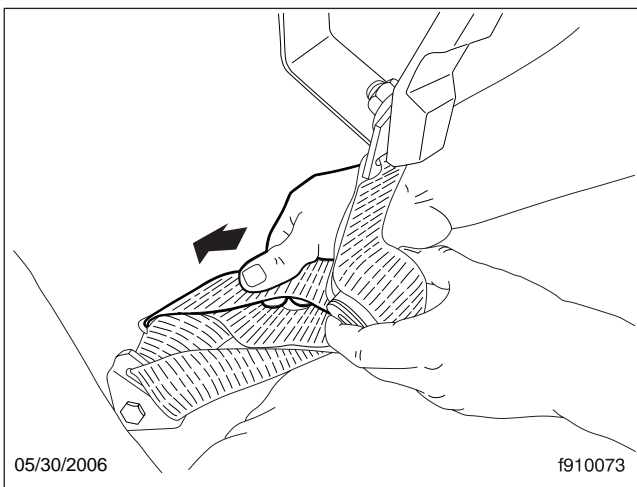

Fig. 5.15, Lengthening the Tether Belt
2. To lengthen the tether belt, turn the buckle at a right angle to the webbing, then pull the bottom webbing strap through the buckle until the desired length is reached. See Fig. 5.15.